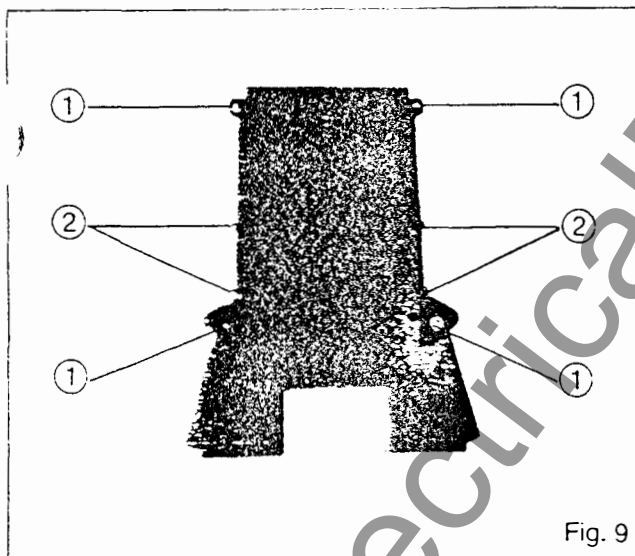
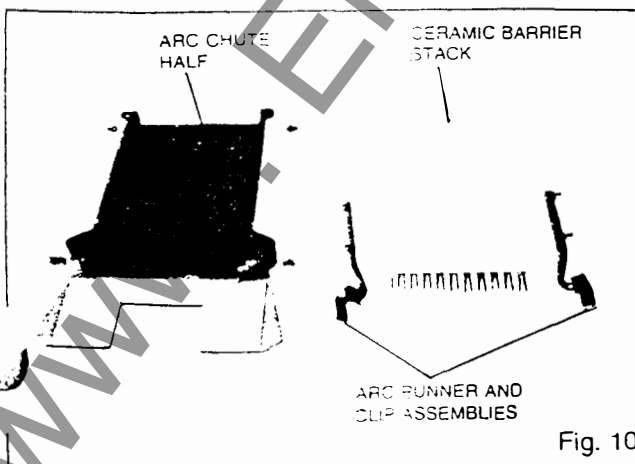

Fig. 9
Fig. 10
Refer to Figure 9
2. Remove the hardware which attaches the two arc chute halves at four locations marked (1) in Figure 9.
3. Loosen, but do not remove, the four arc runner attachment screws identified as (2).
4. Carefully lift off one of the arc chute halves to expose the ceramic barrier stack and the arc runner and clip assemblies. Refer to Figure 10.